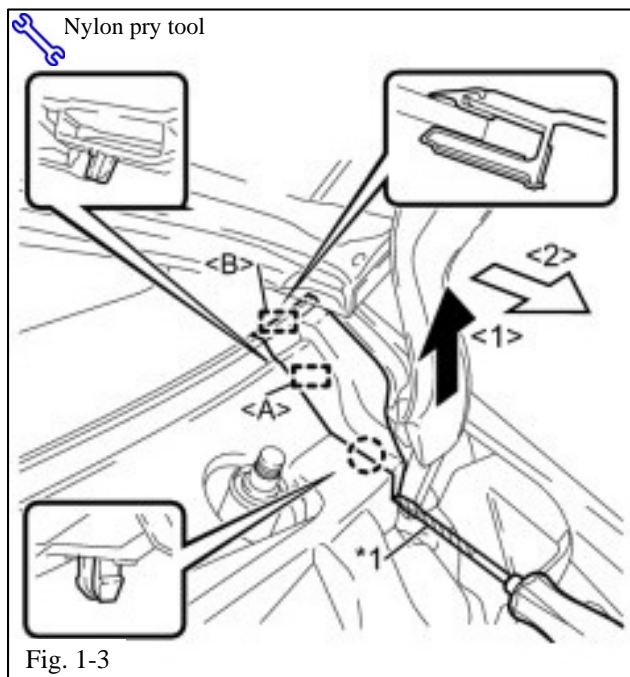

Fig. 1-3
- (1) Use a pry tool to disengage the claw and guide (<A> Fig. 1-3).
- (2) Disengage the guide and remove the cowl side ventilator sub-assembly LH (Fig. 1-3).